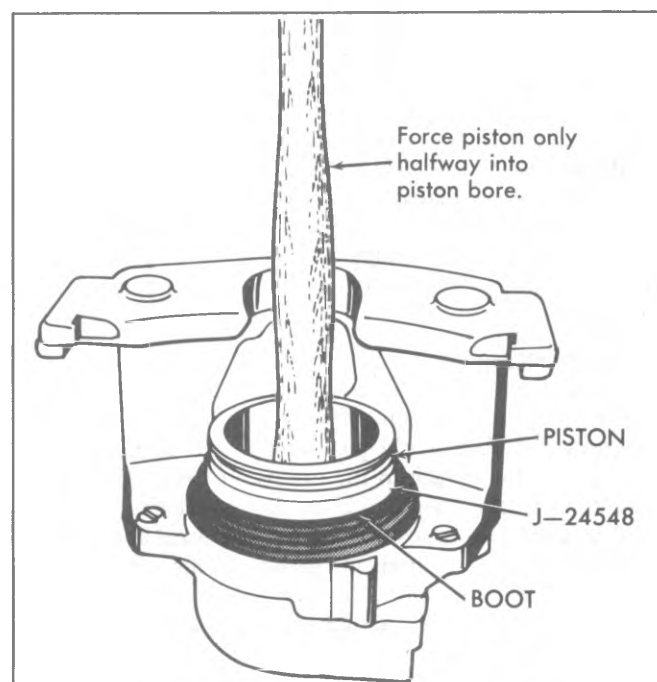

Fig. 5-41—Installing Piston in Caliper
3. Place the piston inside of Tool J-24548, force the piston halfway into the piston bore using a wood hammer handle or "C" clamp (fig. 5-41); remove Tool J-24548. Check to be sure the boot was not unseated at piston installation. Make sure the outer bead of the boot is seated in the piston outer groove.